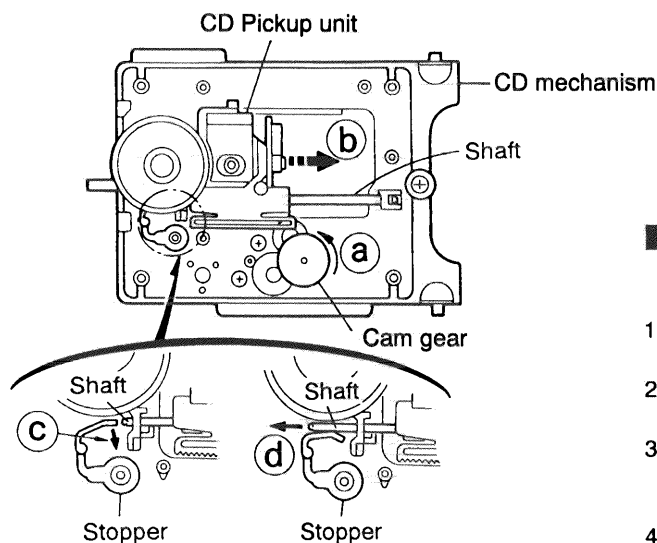

Fig.5-47
■ Removing the CD pickup unit (See Fig.5-47)
1. Move the cam gear in the arrow direction ①. Then, the CD pickup unit will be moved in the arrow direction ②.
2. According to the above step, shift the CD pickup unit to the center position (See Fig.5-47).
3. While pressing the stopper retaining the shaft in the arrow direction ③, pull out the shaft in the arrow direction ④ (See Fig.5-47).